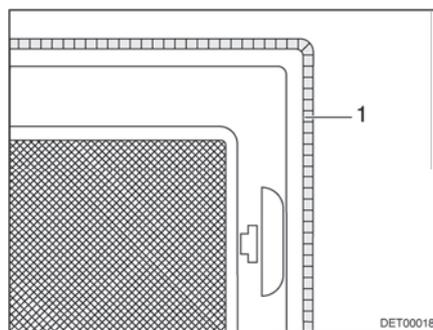

Fig. 53 Forced ventilation
**Forced ventilation** Depending on the equipment, the skylight will be equipped with a forced ventilation (Fig. 53,1). The skylights with forced ventilation are installed in the living area and in the toilet compartment.